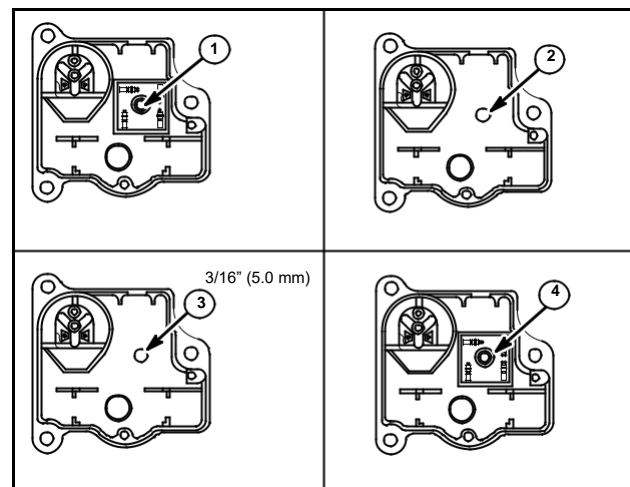

Fig. 26
8. Locate nut on inside of switch box. Attach rectifier with plastic screw and nut (4). Assemble as shown in Fig. 26.